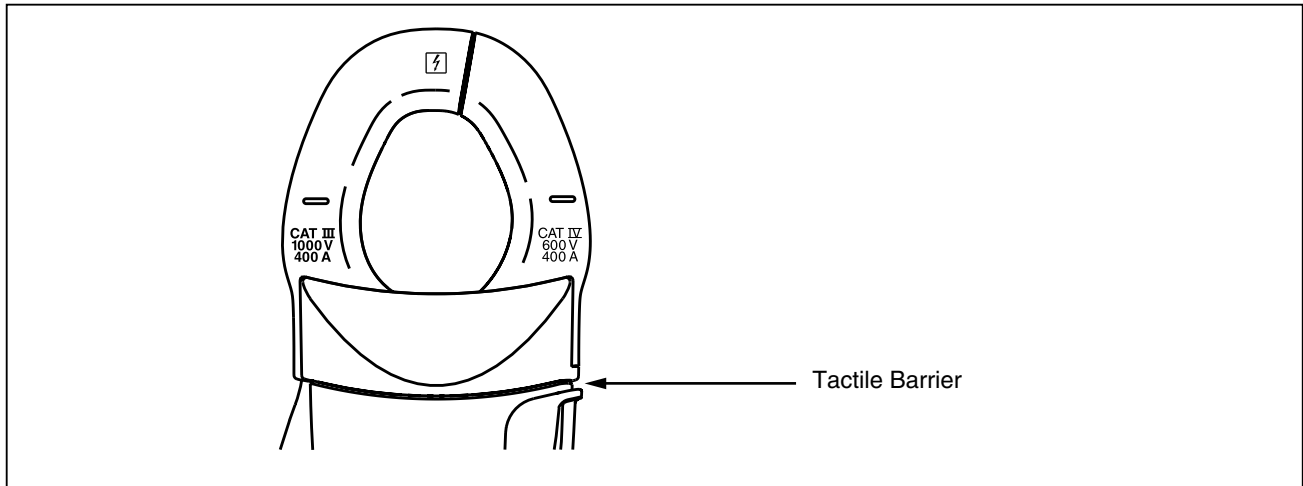

Figure 1. Tactile Barrier
- Only hold the Current Clamp below the tactile barrier, see Figure 1.